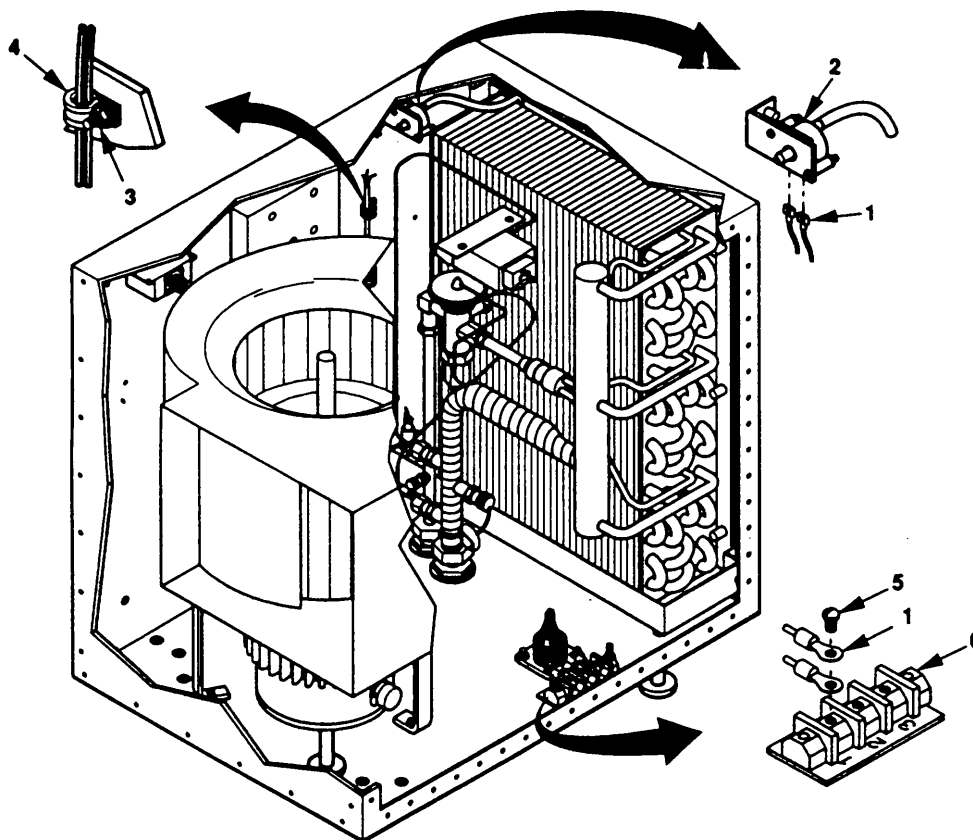

Figure 5-16. Evaporator Electrical Lead Maintenance.
- a. **Inspect.** Inspect electrical lead (Figure 5-16, 1) for cracks, burns, loose or damaged terminals.